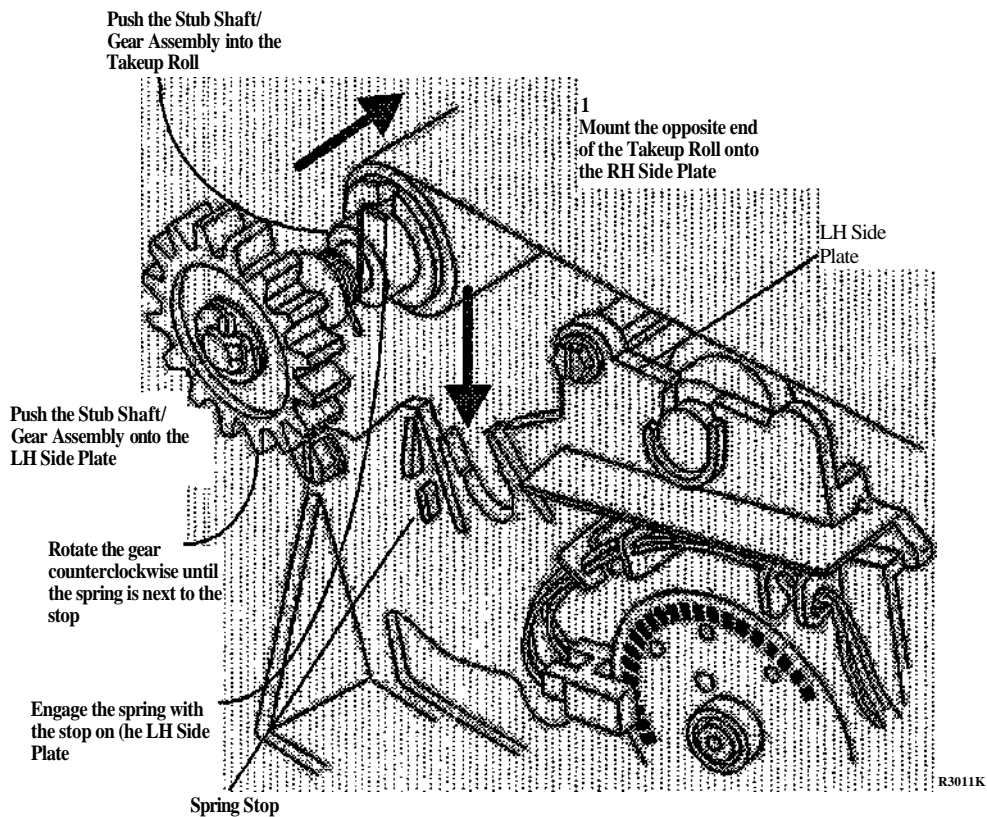

Figure 4. Reinstalling the Takeup Roll
2. (Figure 4): Reinstall the Takeup Roll.